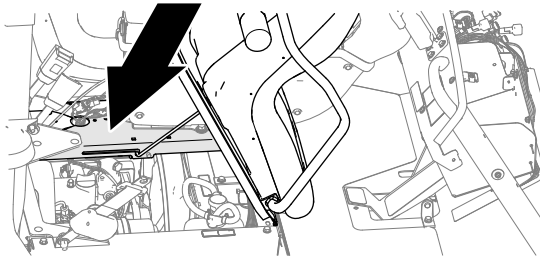

Figure 36
1. Tilt the passenger seat forward to access the console base (Figure 36).